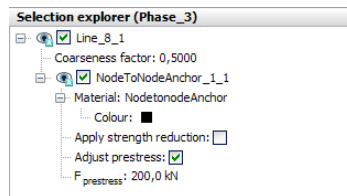

Figure 2.3 Node-to-node anchor in the *Selection explorer*
- Click on the *Adjust prestress* checkbox. Enter a prestress force of 200 kN (Figure 2.3).